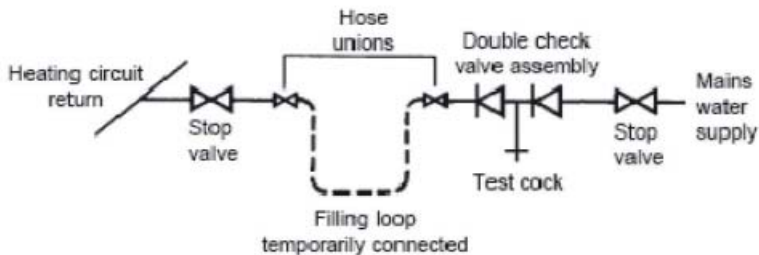

Fig. 5
2.3.3 Requirements for sealed water systems (fig. 5)
d) A sealed system must only be filled by a competent person using a method similar to that shown in fig. 5. The system design should incorporate the connections appropriate to one of these methods.